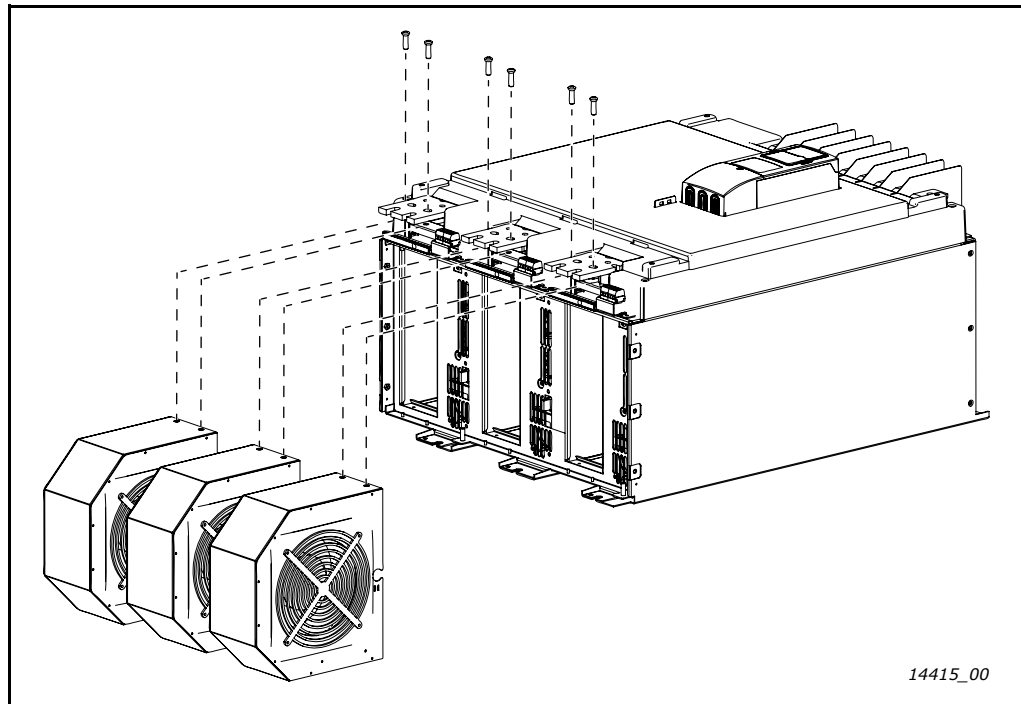

Figure 71. Releasing the main fans
<p>2</p>	<p>Install the three DC fans. The fans are mounted in the same way as the old AC fans (see Figure 71 on page 48). Use the four M5x10 mounting screws (MC00046) supplied in the retrofit kit.</p> <p>When installing the fans, make sure that the pins (X) are aligned with the holes in the drive frame. First, install the backside of the assembly. Then, lift the front side up in order to align the screw holes.</p> <div data-bbox="568 775 1193 1393" data-label="Image"> </div> <p style="text-align: center;">Figure 75. Installing the fan</p>